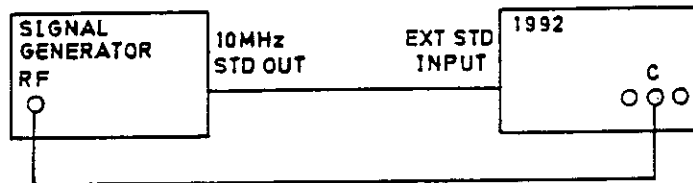

Figure 6.31 - Connections for Channel C Sensitivity PVP
- a. Connect the test equipment as shown in Figure 6.31